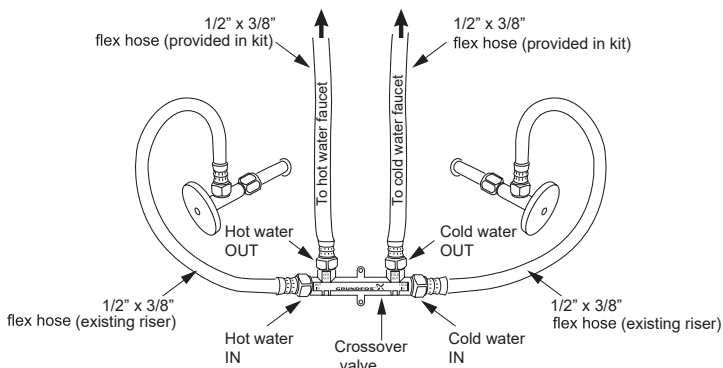

Fig. 3 Connect crossover valve, flex hoses, and fittings as shown
1. Connect the 1/2" X 1/2" flex hoses to the ports on the crossover valve marked "HOT OUT" and "COLD OUT". See fig. 3.
2. Connect the 1/2" x 3/8" flex hoses to the ports on the crossover valve marked "HOT IN" and "COLD IN". See fig. 3.
3. Connect the 1/2" hose fitting from the "HOT OUT" port on the crossover valve to the left side of the faucet. See fig. 3.
4. Connect the 1/2" hose fitting from the "COLD OUT" port on the crossover valve to the right side of the faucet. See fig. 3.
5. Connect the 3/8" hose fitting from the "HOT IN" port on the crossover valve to the left angle stop valve. See fig. 3.
6. Connect the 3/8" hose fitting from the "COLD IN" port on the crossover valve to the right angle stop valve. See fig. 3.